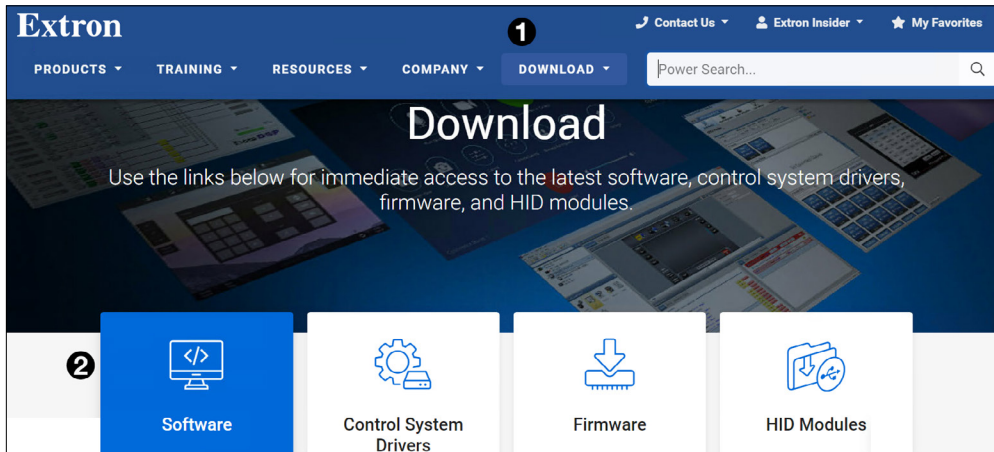

Figure 15. Software Downloads from the Extron Website
1. Select the Download tab (see figure 15, **①**).
2. Click the Software (**②**) option at the bottom of the page.